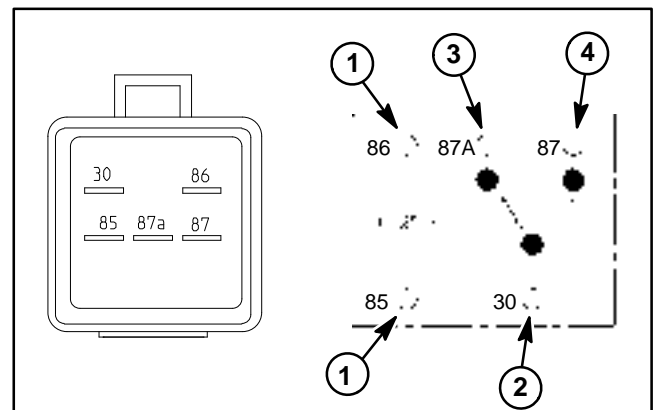

Figure 66
3. Using a multimeter (ohms setting), measure coil resistance between terminals 85 and 86 (Fig. 66). Resistance should be between **70 and 90 ohms**.